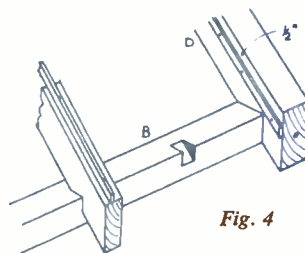

Fig. 4
The glazing bars of the roof are of 3/4 in. by 1 1/2 ins. sparring with 1/2 in. by 3/4 in. or 1/2 in. strip nailed on to hold the glass. Slots are made in the eaves beam (B) to hold the bars. See Fig. 4. These slots should be positioned so that their distance apart allows easy fitting of the glass. (This drawing also shows strip-